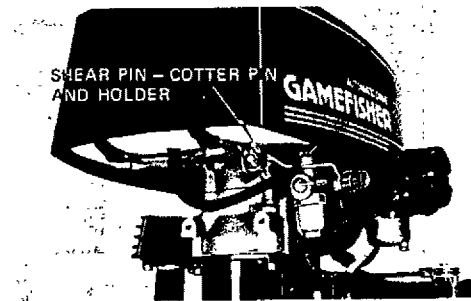

Figure 12
- c. Replace with new shear pin located in shear pin and cotter pin holder. (See Figure 12).